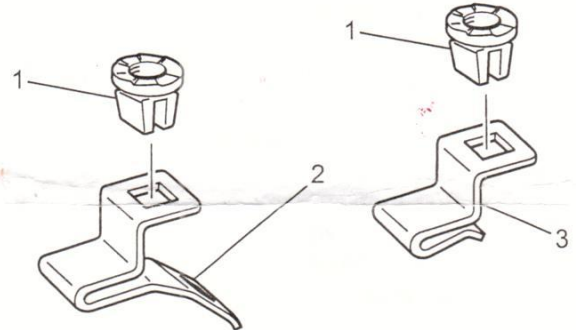

FIGURE 6
- Fit the nut inserts (1) into the centre wing clips (2) and into the outer wing clips (3) as shown. Refer to figure 6.